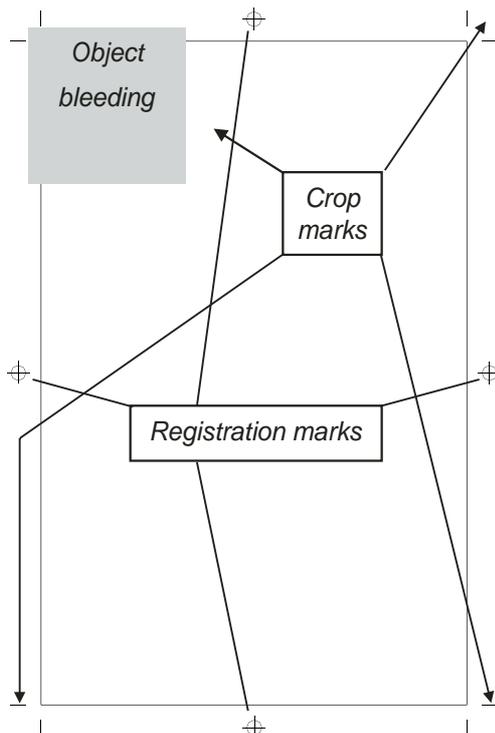

Fig. 12.10 - Page showing **Printers marks** and object bleeding off the edge of the page.
If you want an object to go to the edge of the paper, you must print the page on a bigger piece of paper and trim it afterwards. Unfortunately inaccuracies in trimming may result in a gap along the edge of the paper. The solution is to bleed the object off the page, then use the **Bleed** option to print a slightly larger page. Trimming the paper to the page size should then give perfect results (*fig. 12.10*).
**Printers marks** are positioned outside the page area of your document (*fig. 12.10*). If **Crop check** has been set in **Choices** (*see 15.4*) you will be alerted if the printable area is bigger than the paper size. If you decide to proceed the printout will be cropped.
If **Printers marks** is selected, *crop marks* are printed around the edges of the page (*fig. 12.10*). These are used to trim a page to size when it has been printed on a larger piece of paper. In addition, *registration marks* are printed at the centres of each side of the page. These are used to help align separated film.